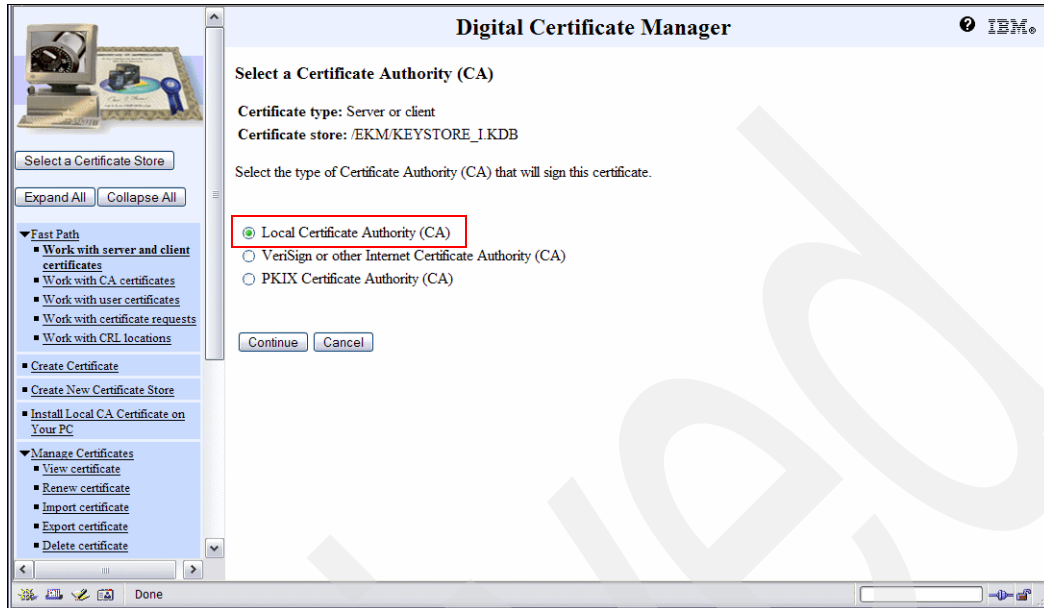

Figure 6-59 Selecting Local Certificate Authority
4. In the Select a Certificate Authority window, select **Local Certificate Authority (CA)** and click **Continue** (Figure 6-59).